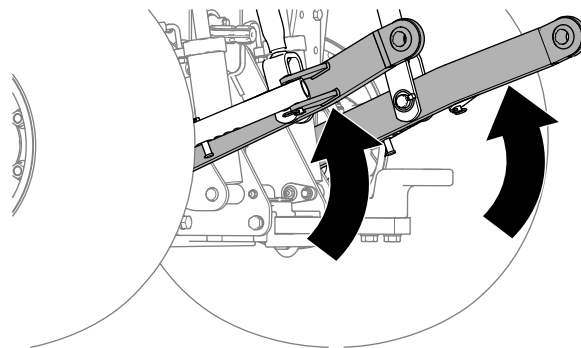

Figure 11
4. Fully raise the lower links of the 3-point hitch (Figure 11).